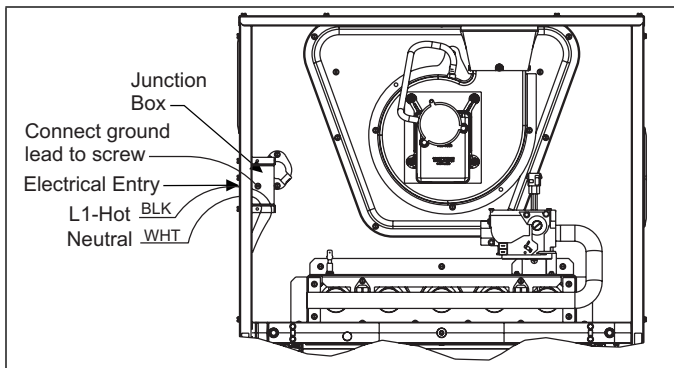

FIGURE 16: Electrical Wiring
2. Remove the screws retaining the wiring box cover. Route the power wiring through the opening in the unit into the junction box with a conduit connector or other proper connection. In the junction box there will be 3 wires, a Black Wire, a White Wire. Connect the power supply as shown on the unit-wiring label on the inside of the blower compartment door or the wiring schematic in this section. The black furnace lead must be connected to the L1 (hot) wire from the power supply. The white furnace screw must be connected to neutral. Connect the power supply ground to the green screw (equipment ground) An alternate wiring method is to use a field provided 2" (5.1 cm) x 4" (10.2 cm) box and cover on the outside of the furnace. Route the furnace leads into the box using a protective bushing where the wires pass through the furnace panel. After making the wiring connections replace the wiring box cover and screws. Refer to Figure 16.
3. The furnace's control system requires correct polarity of the power supply and a proper ground connection. Refer to Figure 16.